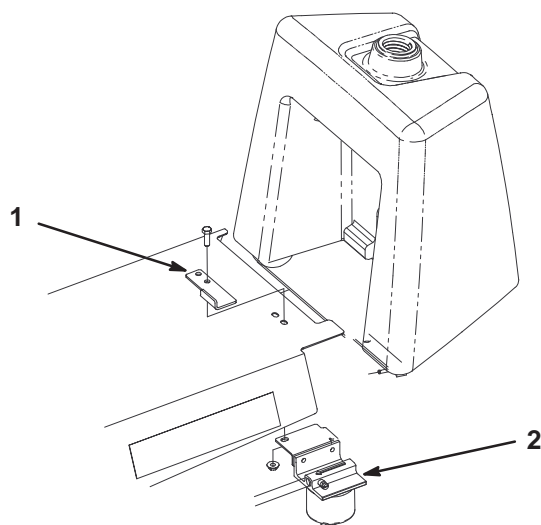

Figure 3
6. When mounting a standard seat to machine, a seat stop (Fig. 3) must be installed as follows:
- C. Using capscrew and nut removed and a 5/16 x 1" capscrew and nut supplied in loose parts, secure the seat stop and water separator to under side of skirt with (2) capscrews and locknuts. Position stop as shown in figure 3.